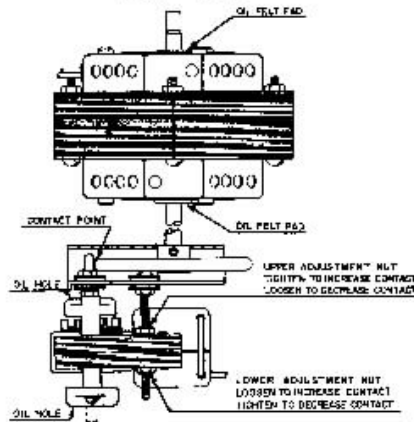

FIG. 4
MOTOR OILING (See Fig. 4)
2. Remove large pulley (A) using 3/32 hex (Allen) wrench.
3. Remove "U" bracket (B).
4. Apply oil to locations shown in Fig. 4, avoiding excess which cannot be absorbed.
2. With the small motor ON, turn the adjusting nuts so that the small motor is completely disengaged with the rubber-tired drive pulley. (See Figure 4).